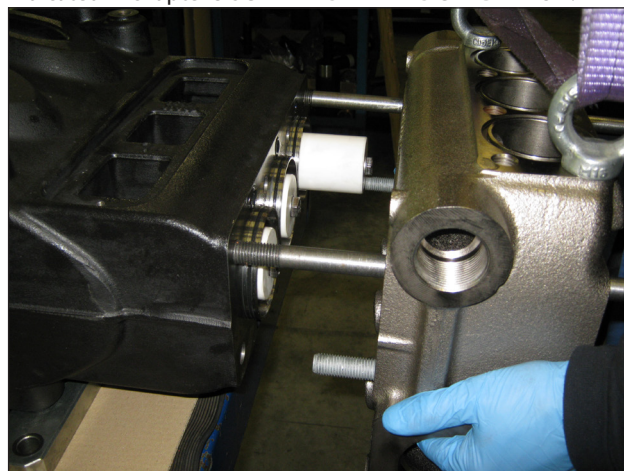
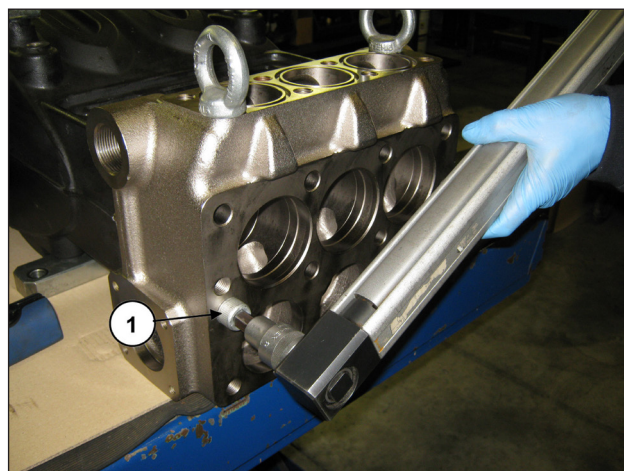

Fig. 119
Fig. 120
Assemble the head on the pump casing (pos. ①, Fig. 119) taking care not to strike the pistons and screw in the 2 M16x180 screws (pos. ①, Fig. 120) with a torque wrench as indicated in chapter 3 SCREW TIGHTENING CALIBRATION.